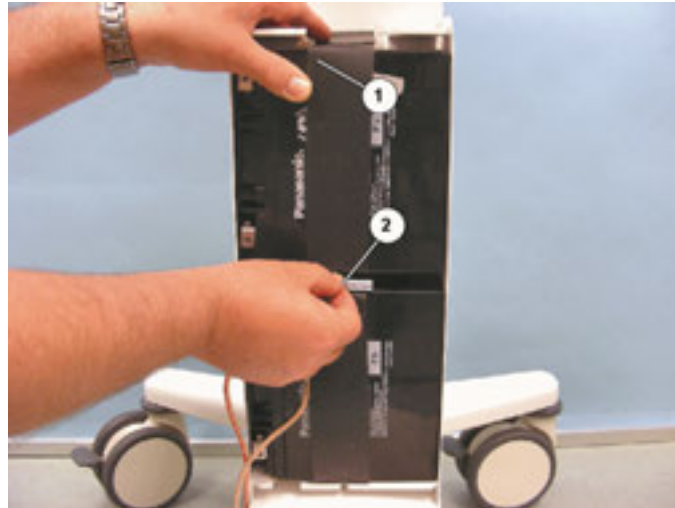

Fig. 105 External batteries: Screw with bar
- 7 Hold the top battery (Fig. 105/1) during removal and remove the screw with the bar (Fig. 105/2).